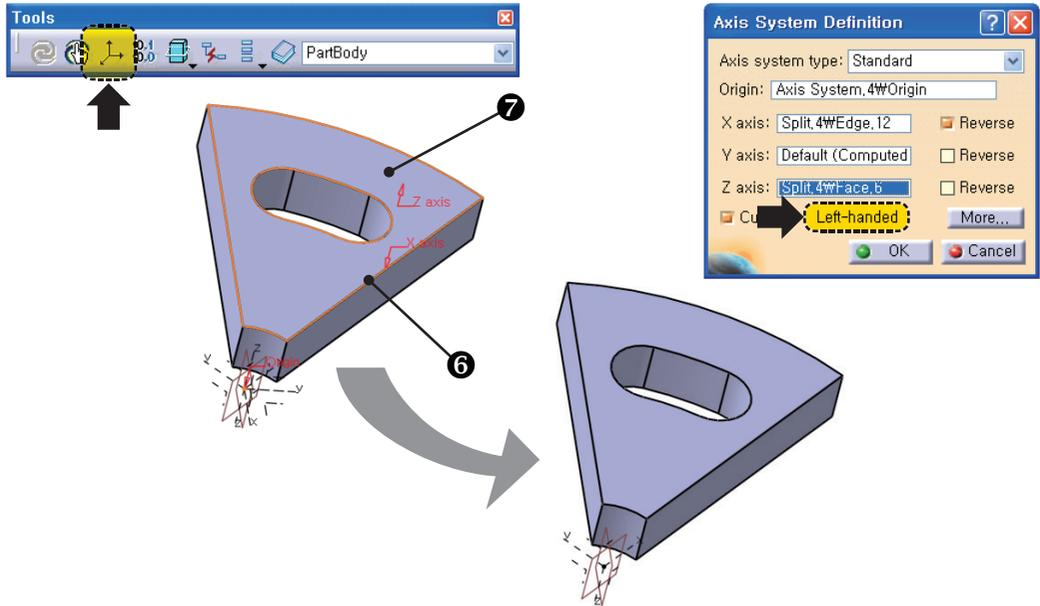

Fig 8-12 Creating Coordinate System
6. Select the edge on the plane to restrain as the X axis (6 in Fig 8-12). If the direction is not correct check the **Reverse** option in the dialog box.
7. Select the plane to restrain as the Z axis (7 in Fig 8-12).
The Y axis is defined automatically. Suppose that the coordinate system is **Left-handed** as shown in Fig 8-12. This may not be your case.
6. Select the coordinate system that is created in Fig 8-12.